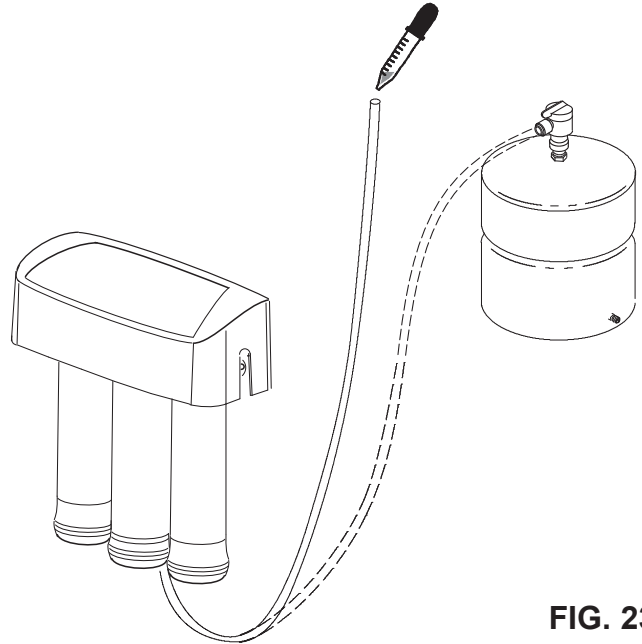

FIG. 23
Sanitizing is recommended immediately after installation of the Reverse Osmosis system. It's also recommended after servicing inner parts. It is important that the person installing or servicing the system have clean hands while handling inner parts of the system. Complete the following steps to sanitize the system. See Fig. 23.
4. Add 3 ml. of bleach into open end of yellow tubing. Handle bleach according to bleach manufacturer's recommendations. See Fig. 23.